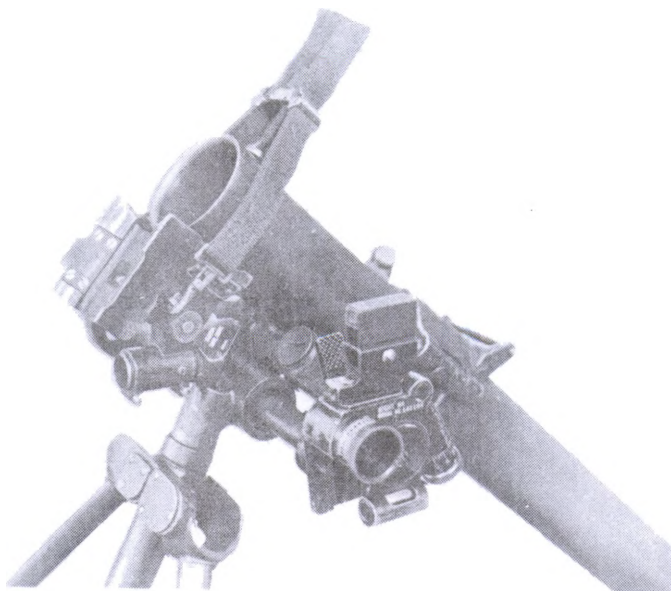

Figure 2. Boresight On underside of barrel.
a. Install the boresight on the underside of the barrel as shown in Figure 2. Do not disturb the lay of the mortar barrel while centering the cross-level vial bubble on the boresight.